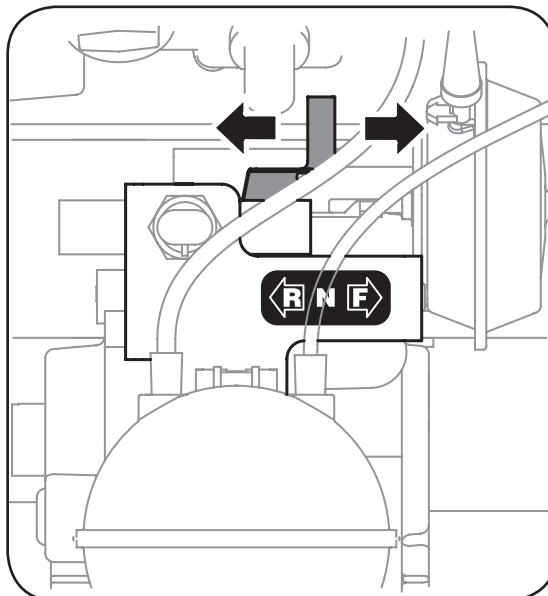

Figure 18
- Place shift lever into the neutral position. See Figure 18.